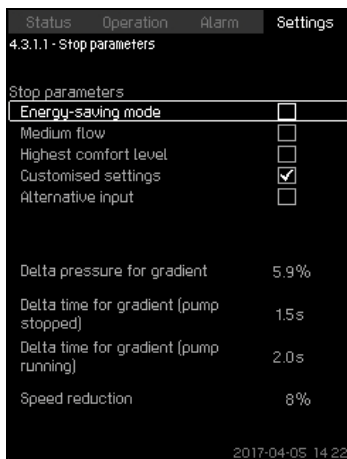

Fig. 73 Customised settings
3. Select one of the stop parameters. If you select "Customised settings", you must set the parameters shown in fig. 73. See the examples below.